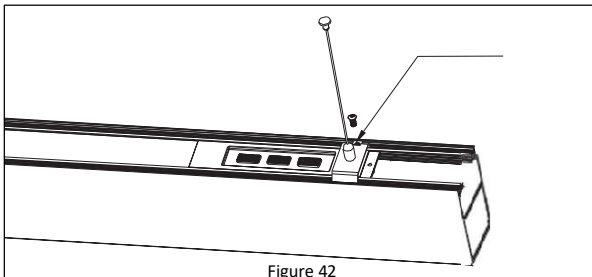

Figure 42
4. Adjust the lifting bracket on the fixture to a suitable position for suspending and linking. **See Figure 42.**